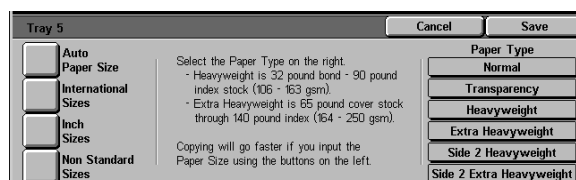

Figure 27: Tray 5 Auto Paper Sizes
- Touch Auto Paper Size as shown in Figure 27.